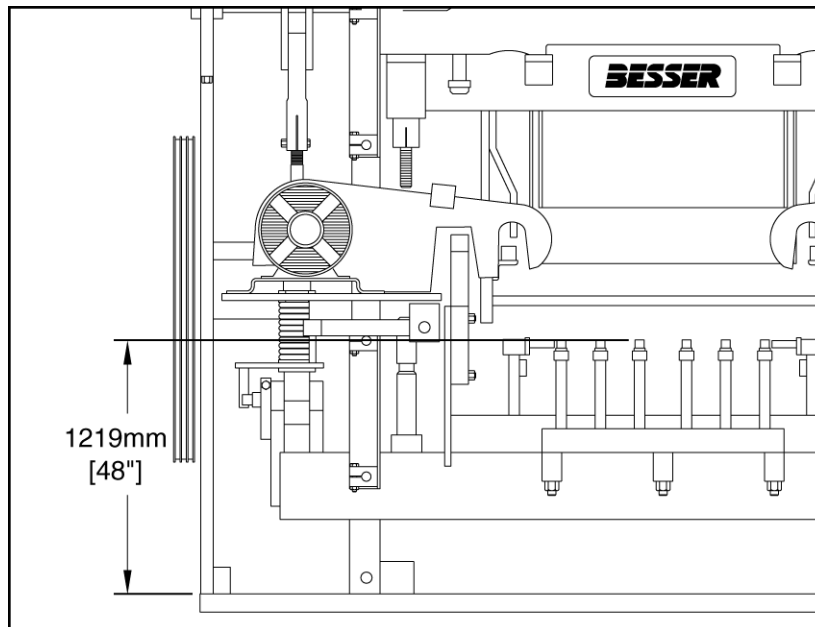
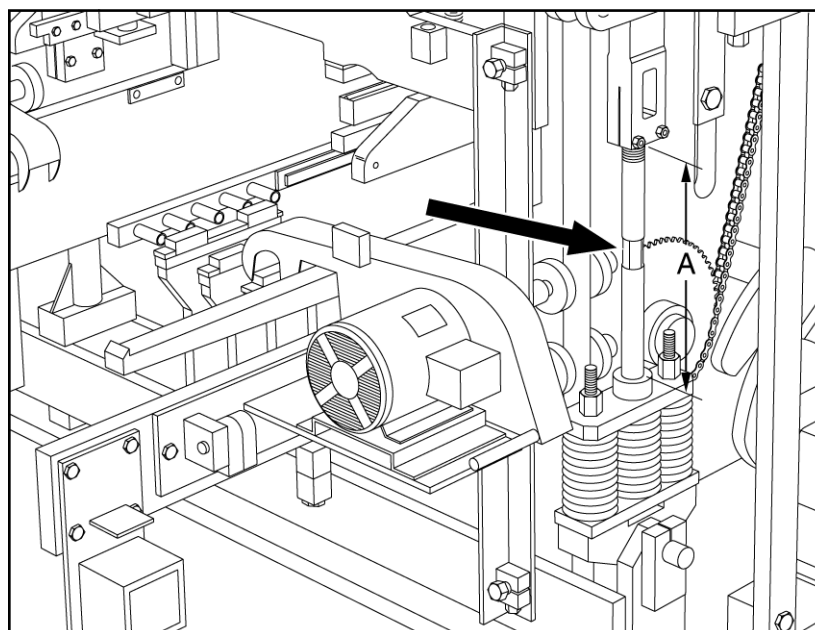

Figure 4.58 PALLET RECEIVER RUBBERS ABOVE BASE PLATE
Figure 4.59 LINK ROD
- 4.4.5 Run machine to "first stop" and adjust the pallet receiver links to obtain a dimension of **1219mm [48"]** from the top of the base plate to the tops of the pallet receiver rubbers (see figure 4.58). This adjustment should expose approximately **600mm [23 5/8"]** of link rod between the upper link end and the boss on the spring assembly (see dimension "A" on figure 4.59).